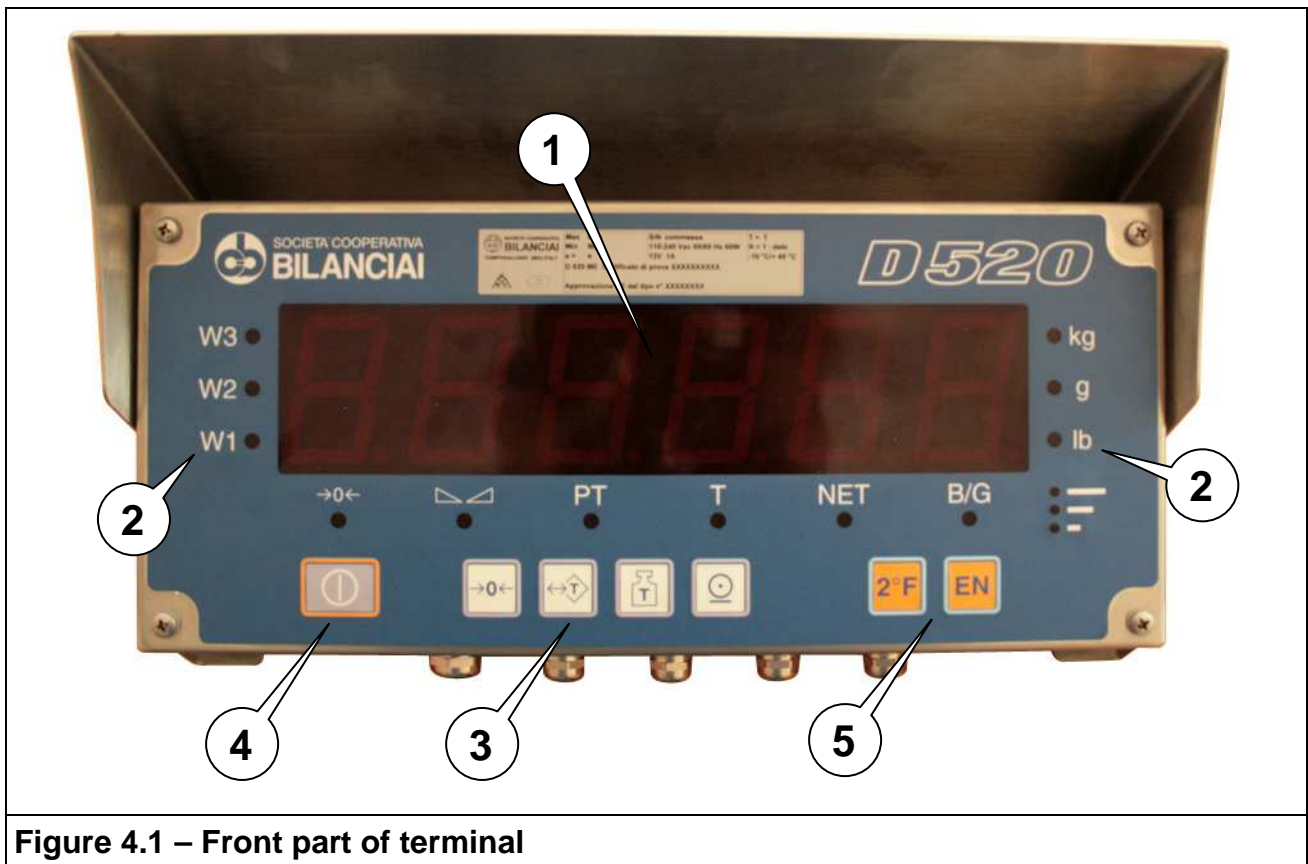

Figure 4.1 – Front part of terminal
With reference to Figure 4.1 on page 22:
- Press the  key on the terminal (Figure 4.1 - page 22).